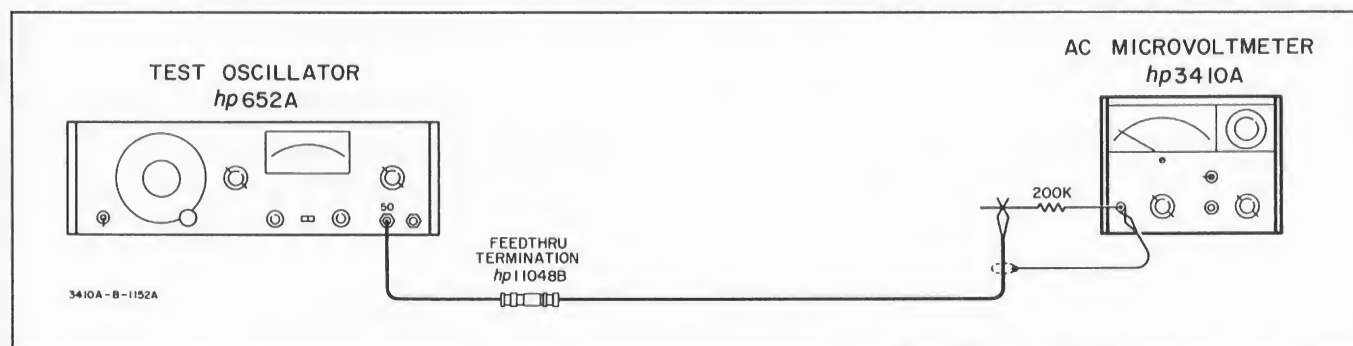

Figure 5-3. Input Impedance Check
- d. Connect a 200 k $\Omega$  resistor between the test oscillator and the 3410A as shown in Figure 5-3.
- a. Connect the test oscillator (terminated in 50 $\Omega$ ) and a 200 k $\Omega$  resistor to 3410A as shown in Figure 5-3. Insert the resistor lead directly into the BNC connector on the 3410A, and connect the ground lead to the outer shield of the connector. Do not use an adapter, as it would add input capacitance. The 50 $\Omega$  termination should be as close as possible to the 200 k $\Omega$  resistor.